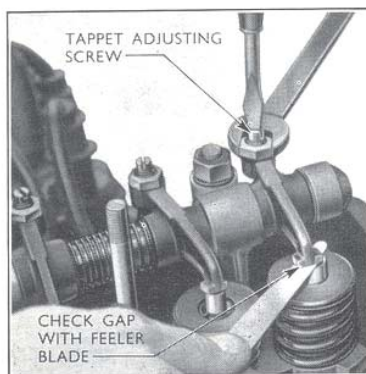

Fig. 6.
5. Check the clearance with a feeler blade and if adjustment is required slacken the locknut and turn the rocker arm adjusting screw until the correct clearance is obtained (Fig. 6).